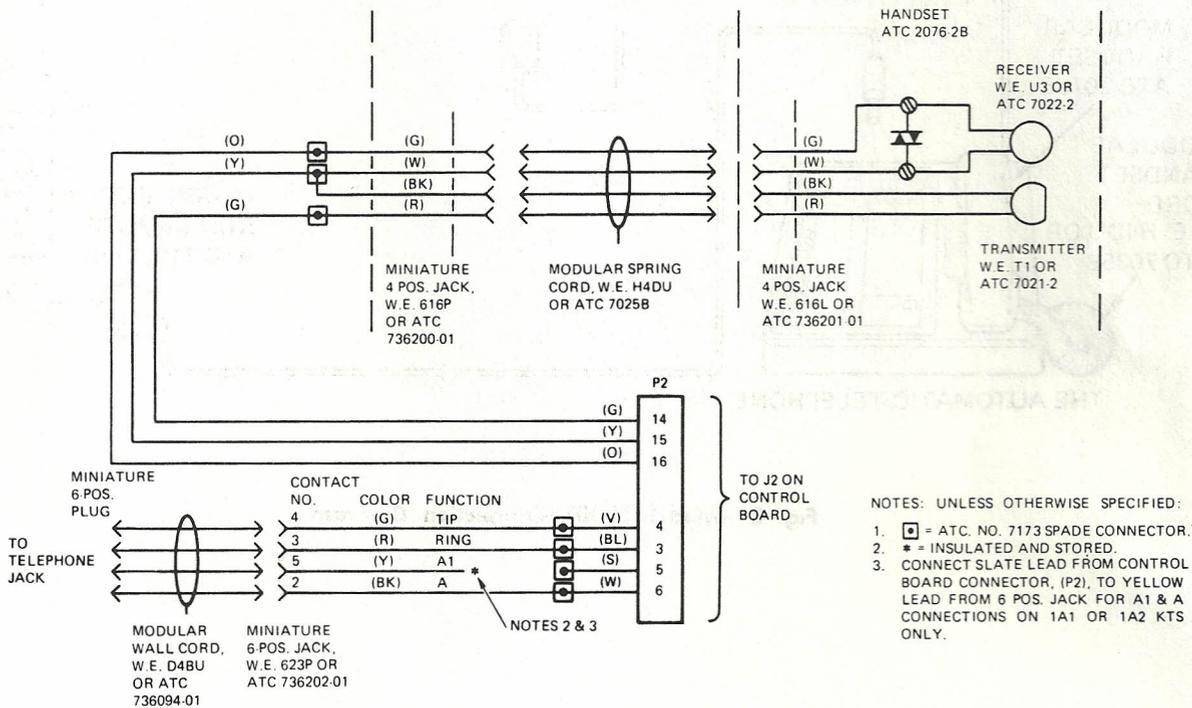
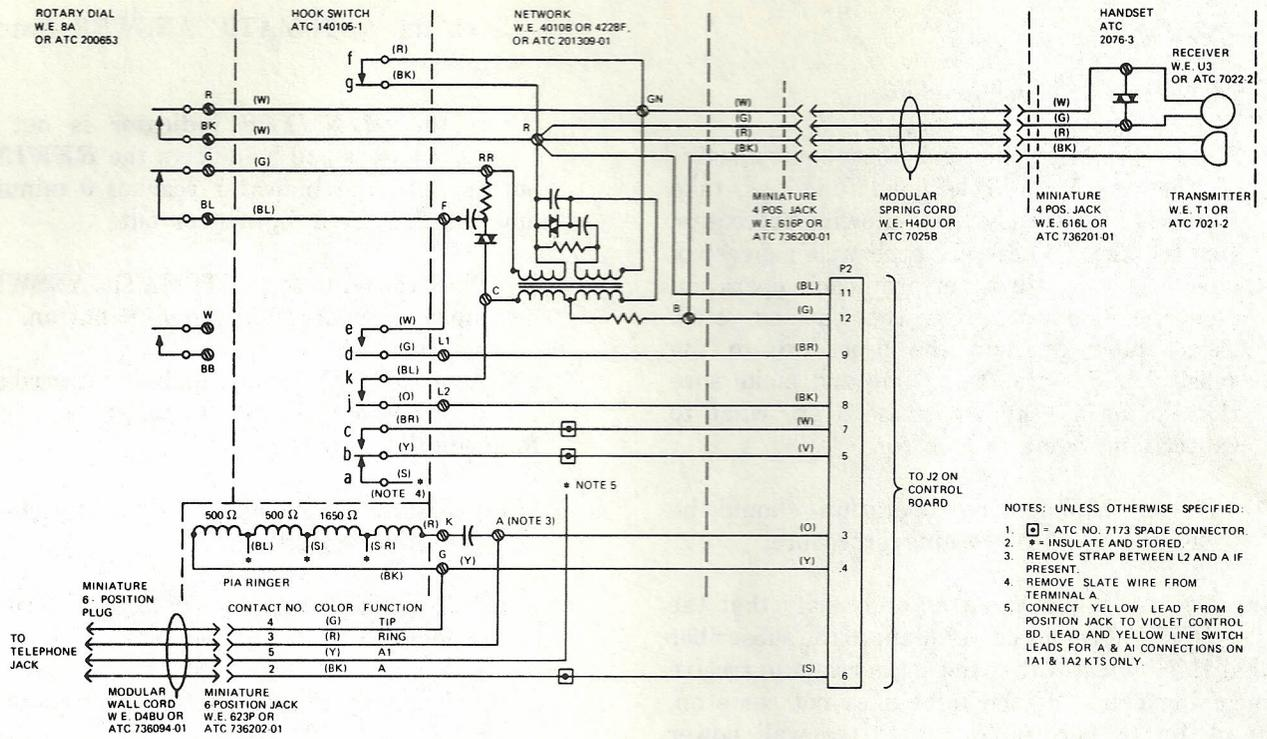

Fig. 4—Model 1000T Connection for Adjunct Unit
Fig. 5—Model 1000T Connections for Rotary Dial
**3.08** Contact closure is provided in all units for shorting A (black) and A1 (yellow) connections in Key System installations (Fig. 4, 5, and 6). These contacts close when The AutoMatic TelePhone answers a call and remain closed throughout the answer cycle. This option is enabled by making a single wire connection as defined in Note 3 of Fig. 4 and Note 5 of Fig. 5 and 6. To make these connections, first remove the cover and dial from The AutoMatic TelePhone. Note that the A1 lead (Y) is insulated and stored. It should be connected to the slate (s) or yellow (y) and violet (v) leads, which are already connected with a white connector, as described in the previously mentioned notes.